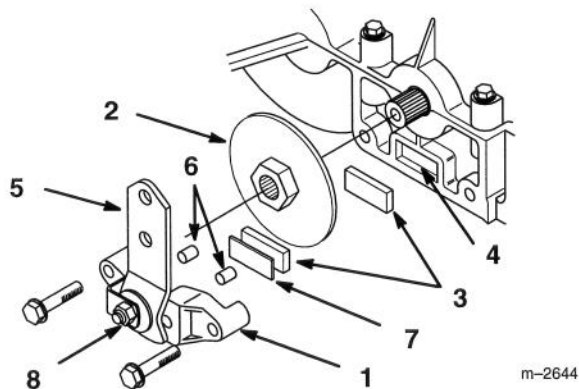

Figure 1
4. Remove brake support bracket from transaxle and slide existing brake disc off shaft (Fig. 1).
5. Clean cavity for brake pad and install new brake pad in transaxle case (Fig. 1).
6. Slide new brake disc onto shaft (Fig. 1).
7. Remove brake pad from brake support bracket (Fig. 1).
8. Place metal plate and new brake pad in brake support bracket (Fig. 1).